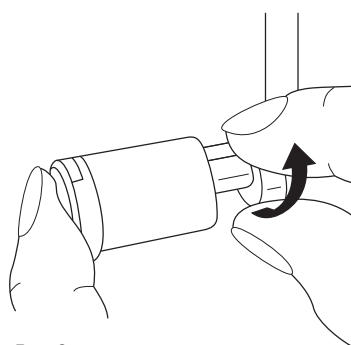

Fig. 2
For this, press the upper blade ❷❸ to the right and rotate it a little, so that it is firmly seated (Fig. 2 and 3).